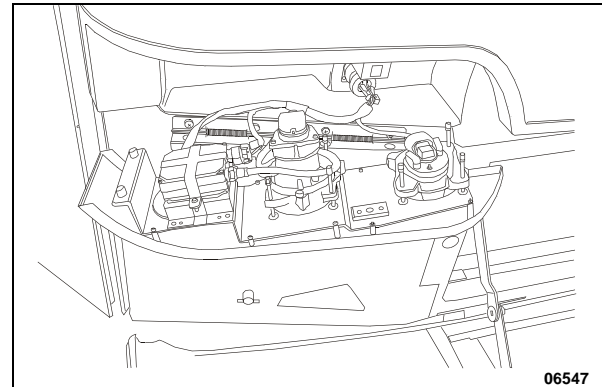

FIGURE 46: OPENING HEADLIGHT ASSEMBLY
Aiming can be performed without opening headlight assembly. Horizontal and vertical aiming of each module is provided by two adjusting screws that pivot the module in the housing for proper alignment (Figure 46). There is no adjustment for focus since the module is set for proper focus during manufacturing assembly.
2. Remove the headlight screw fixing the headlight assembly, then tilt headlight assembly down (Figure 46).